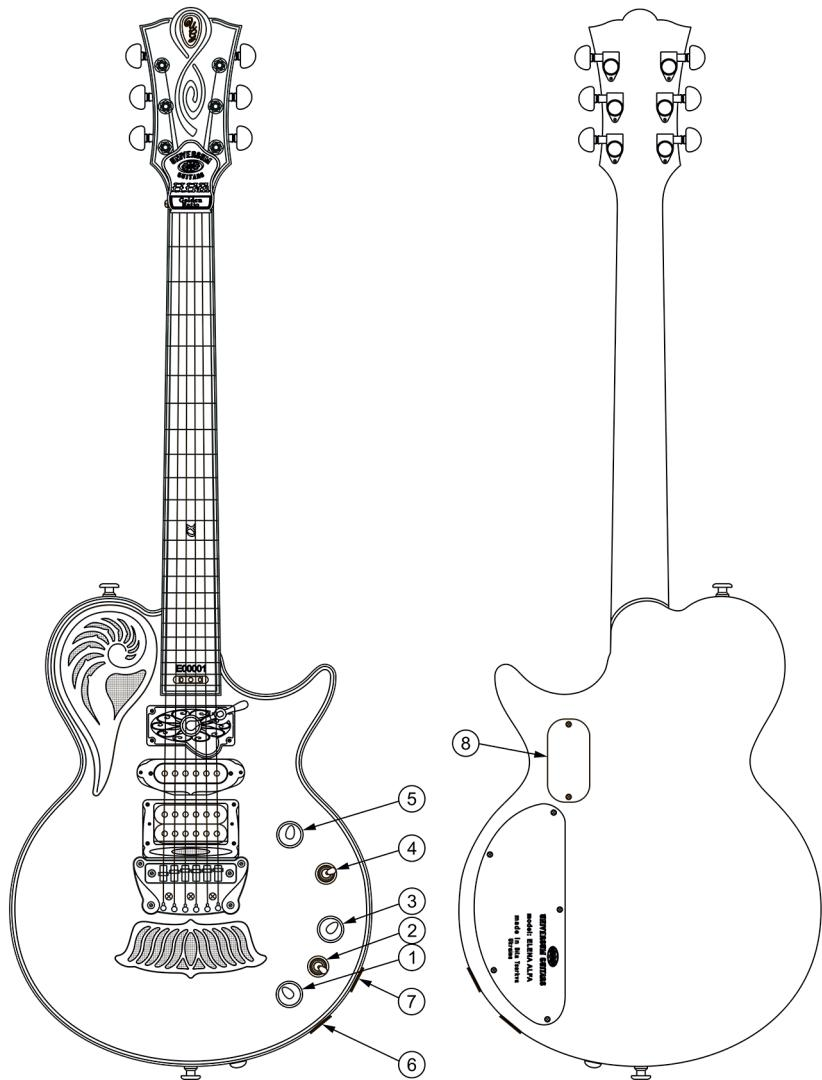

Fig. 17
System has two operation modes - acoustic (microphone pickup) and combined (microphone and electromagnetic pickups). Operation mode switching is performed using a three-position switch-mixer (Fig.17 Pos.2).
- on/off system switch (Fig.17 Pos. 3).
Guitar sound at autonomous monotorning system operation can slightly change when switching a three-position switch-selector which switches the combinations of electromagnetic pickup communtation (Fig.17 Pos.4).
- Output connectors – acoustic (Fig.17 Pos.7) and electromagnetic connectors (Fig.17 Pos.6).
- Power supply elements – 2 off. (Fig.17 Pos.8).
- 1) Microphone pickup volume adjusting potentiometer handle (Fig.17 Pos.1). Controls microphone pickup volume in acoustic (acoustic pickup) and combined (microphone and electromagnetic pickups) operation modes.
- 2) Three-position switch-mixer handle (Fig.17 Pos.2):
- 3) Tone adjusting potentiometer handle with on/off switch of “Push-Pool” type. (Fig.17 Pos.3):
- 4) Three-position switch-selector handle (Fig.17 Pos.4): switches the combinations of electromagnetic pickup commutation.
- 5) Electric guitar volume adjusting potentiometer handle (Fig.17 Pos.5) in electromagnetic operation mode (electromagnetic pickups).